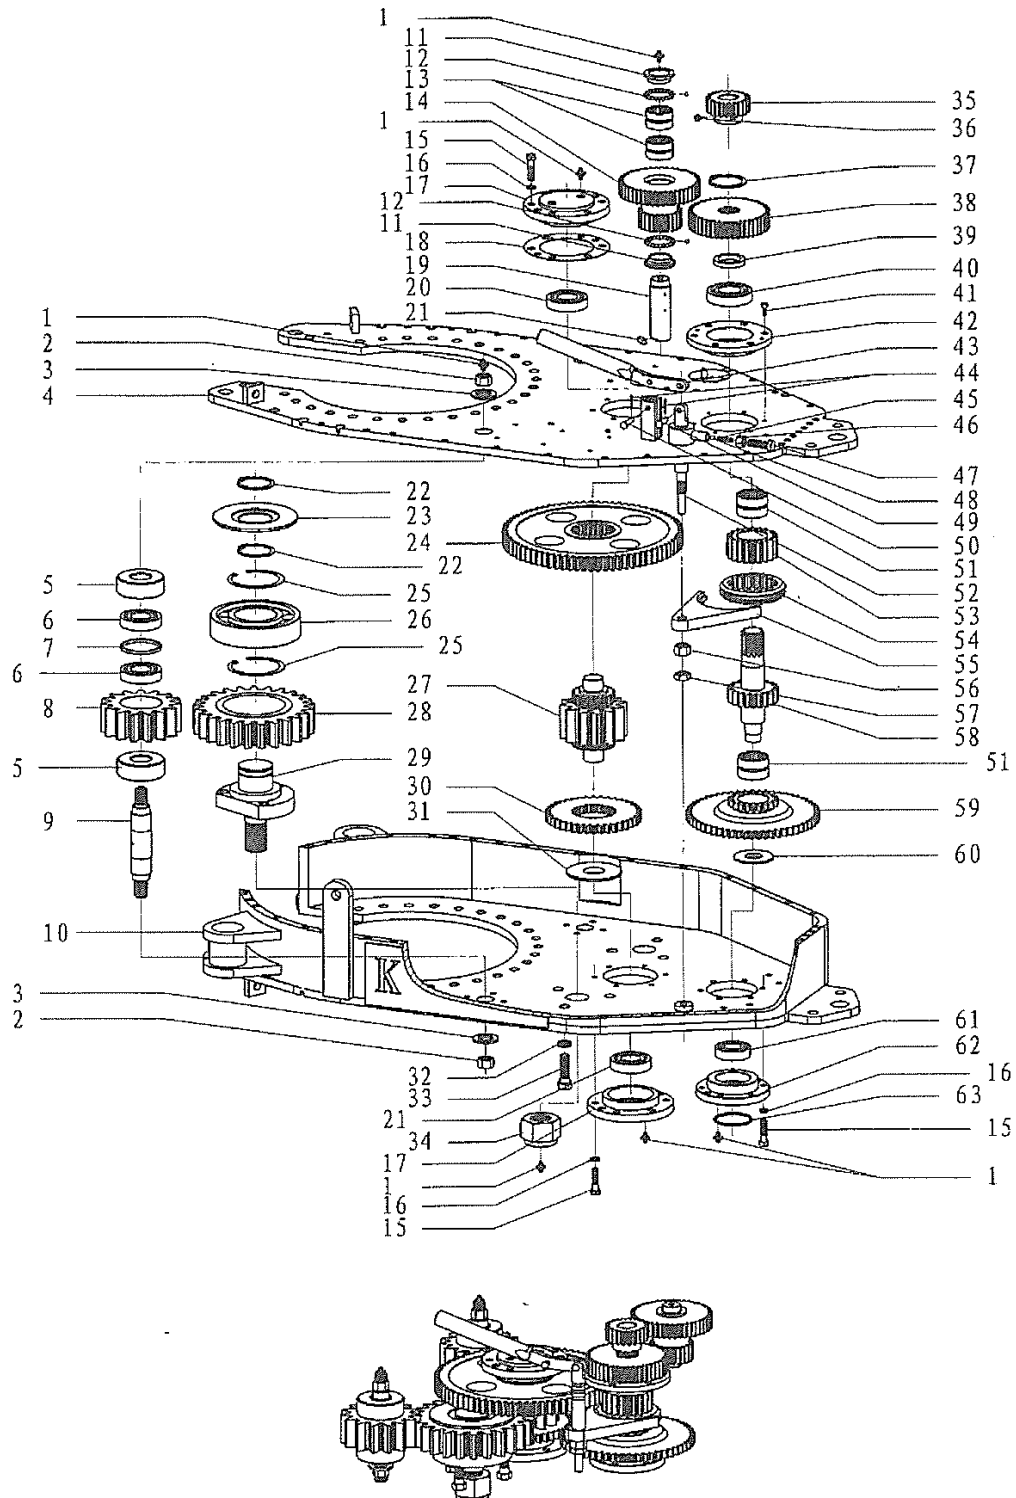

Fig7.
8.6 Transmission gear part (Fig7. Table7)